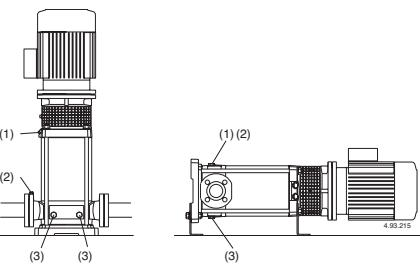
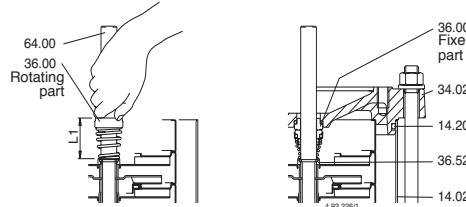

Fig.4 (1) Filling and air vent
Fig.5 Inserting the mechanical seal
When the pump is located above the water level (suction lift operation, fig. 3A) or with a positive suction head which is too low (less than 1 m) to open the non-return valve, fill the suction pipe and the pump through the priming hole (1) (fig. 4).
(2) Suction side air vent
(3) Draining
When the liquid level on the suction side is above the pump (inflow under positive suction head, fig. 3B), fill the pump by slowly and completely opening the inflow gate valve while keeping the delivery gate valve and air vent holes (1), (2) (fig.4) open to release the air.
Close the air vent holes (1), (2) (fig.4), for MXV-B, MXV(L) 25-32-40 e MXV(L)4 25-32-40 Tighten the needle screw (14.17) in the drainage plug (14.12) (fig. 4b) and close the air vent hole (14.04).
If a priming loss occurs (interruption of delivery flow, despite opened gate valves) or if a pressure oscillation is indicated on the pressure gauge, repeat the venting operation on the suction side (2), make sure all the suction pipe couplings are perfectly sealed and tighten the air vent plug (2) and the draining plugs (3) on the suction side (fig.4).
Or, after draining, perform the washing operation, inserting clean water (at least 40 litres) into the filling hole (1) on the delivery side and allowing it to come out of the draining hole (3) on the suction side (fig.4).
Before dismantling, close the gate valves in the suction and delivery pipes and empty the pump casing (**fig. 4**). For dismantling and re-assembly refer to the section drawing (**section 14.**) and **figures 5, 6.**
Push the rotating part as far as the shoulder ring (36.52) on the shaft (64.00), without compressing the spring. Check the length before and after insertion and raise the rotating ring as far as the initial length (L1 in **fig.5**).